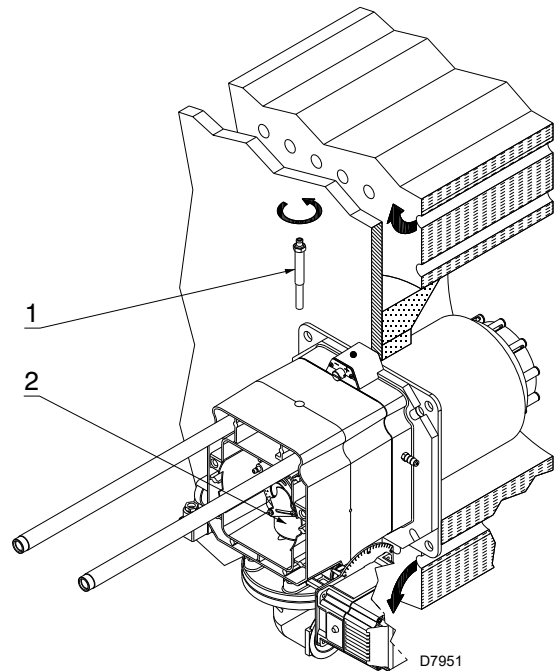

Fig. 13
- remove the screw 1)(Fig. 13);
- extract the inner part 2)(Fig. 13) of the head, and adjust them.